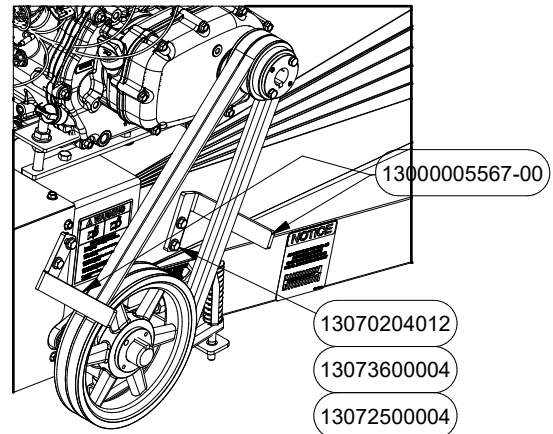

FIGURE 20
20. Install belt shield brace PN# 5567 onto jump and fasten with bolts PN# 13070204012, washers PN# 13073600004 and nuts PN# 13072500004. See Figure 20.